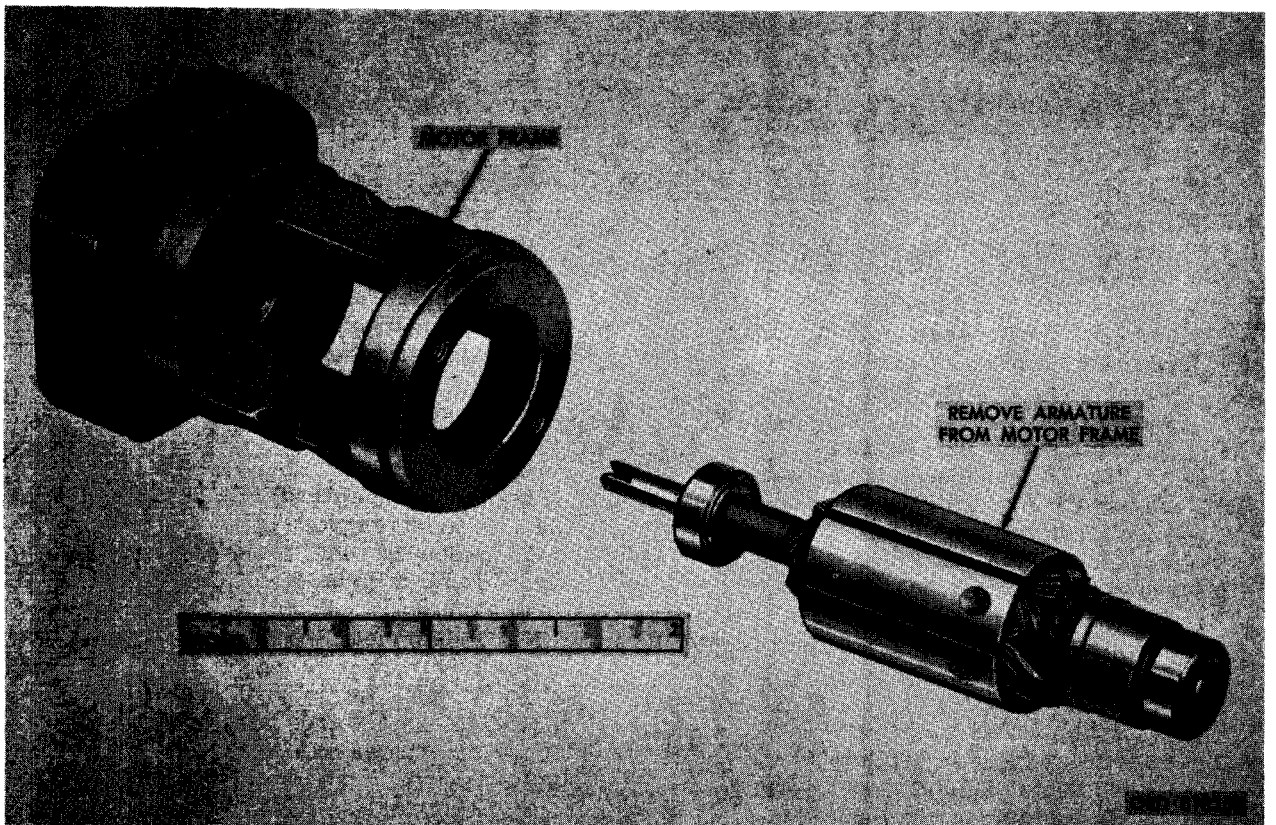

FIGURE 428. REMOVING ARMATURE FROM MOTOR FRAME.
(4) Remove armature from motor frame (fig. 428).